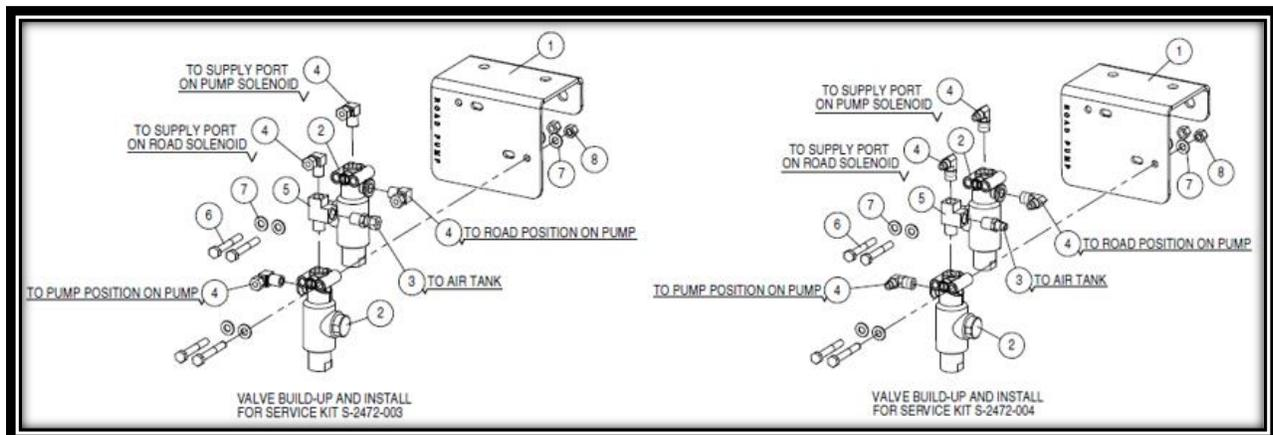

FIG 9.1
Refer to Fig 9.1.
26. Attach the solenoids to the bracket using 05180225H8Y (Item 6), 05FWSAE8Y (Item 7) and 0518LN8Y (Item 8). Torque bolts to 21 lb-ft. Refer to Fig 9.1.
29. If the pump shift solenoid is supplied from the primary tank install an airline from the air tank to the straight fitting on the supply port of the new solenoid. Run an air line between the supply port fittings. Refer to Fig 9.1.